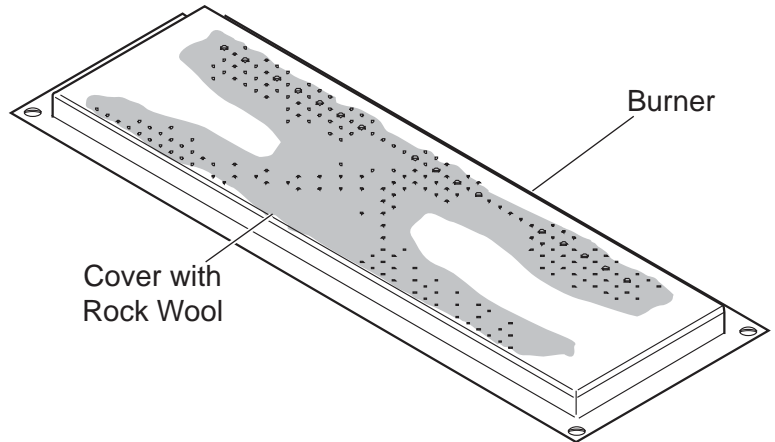

Figure 40 - Placement of Rock Wool on Burner
2. Distribute one layer of rock wool to cover the burner. See *Figure 40*.